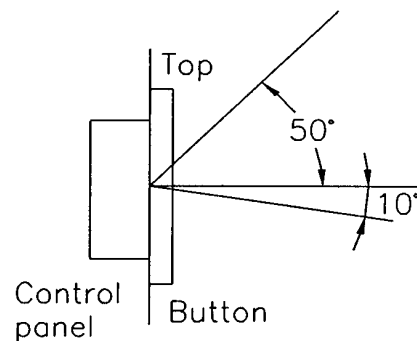

Fig. 2
- The control panel's LCDs are designed to be clearly visible within the angles shown in **Figure 2**. Mount the control unit so that the visual angle is within this range.